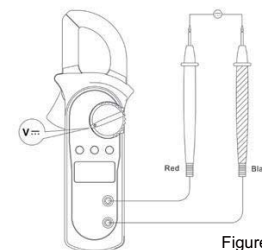

Figure 3
A. Measuring DC Voltage (See Figure 3)